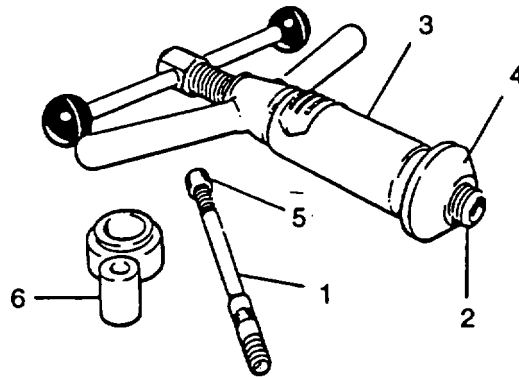

FIGURE 3-29. Valve Guide Tool and Depth Stop
- a. Using valve guide replacement tool (317-50033), refer to FIGURE 3-29; remove each valve guide as follows:
- (1) Place cylinder head on its side in a soft-jawed vice.
- (2) Screw mandrel (1) into tool (2).
- (3) Place sleeve (3) onto tool.
- (4) Fit bevelled adapter (4) into sleeve (3) and locate bevel into valve seat.
- (5) Locate mandrel (1) through guide from valve seat side.
- (6) Screw small threaded sleeve (5) onto mandrel (1) at valve rocker side.
- (7) Holding sliding handle firmly to prevent rotation, turn double handled lever clockwise until guide is withdrawn through head.
- (8) If it is found difficult to start moving guides a sharp tap with a copper hammer should break seal.
- c. Using valve guide removal and replacement tool (317-50033), refer to FIGURE 3-29; install each valve guide.
- (1) Install mandrel (1) into valve guide hole from valve rocker end.
- (2) Place valve guide over mandrel (1) with counterbored end of guide facing towards valve seats.
- (3) Place depth stop (317-50108) (6) over mandrel (1) and screw on threaded sleeve (5).
- (4) Fit tool complete with bevelled adapter (4) onto mandrel (1) at valve seat side.
- (5) Hold sliding handle firmly to prevent rotating. Turn double handled lever clockwise until depth stop prevents further movement. At this point guide will protrude 0.463 to 0.482 in. (11.75 to 12.25 mm) above cylinder head.